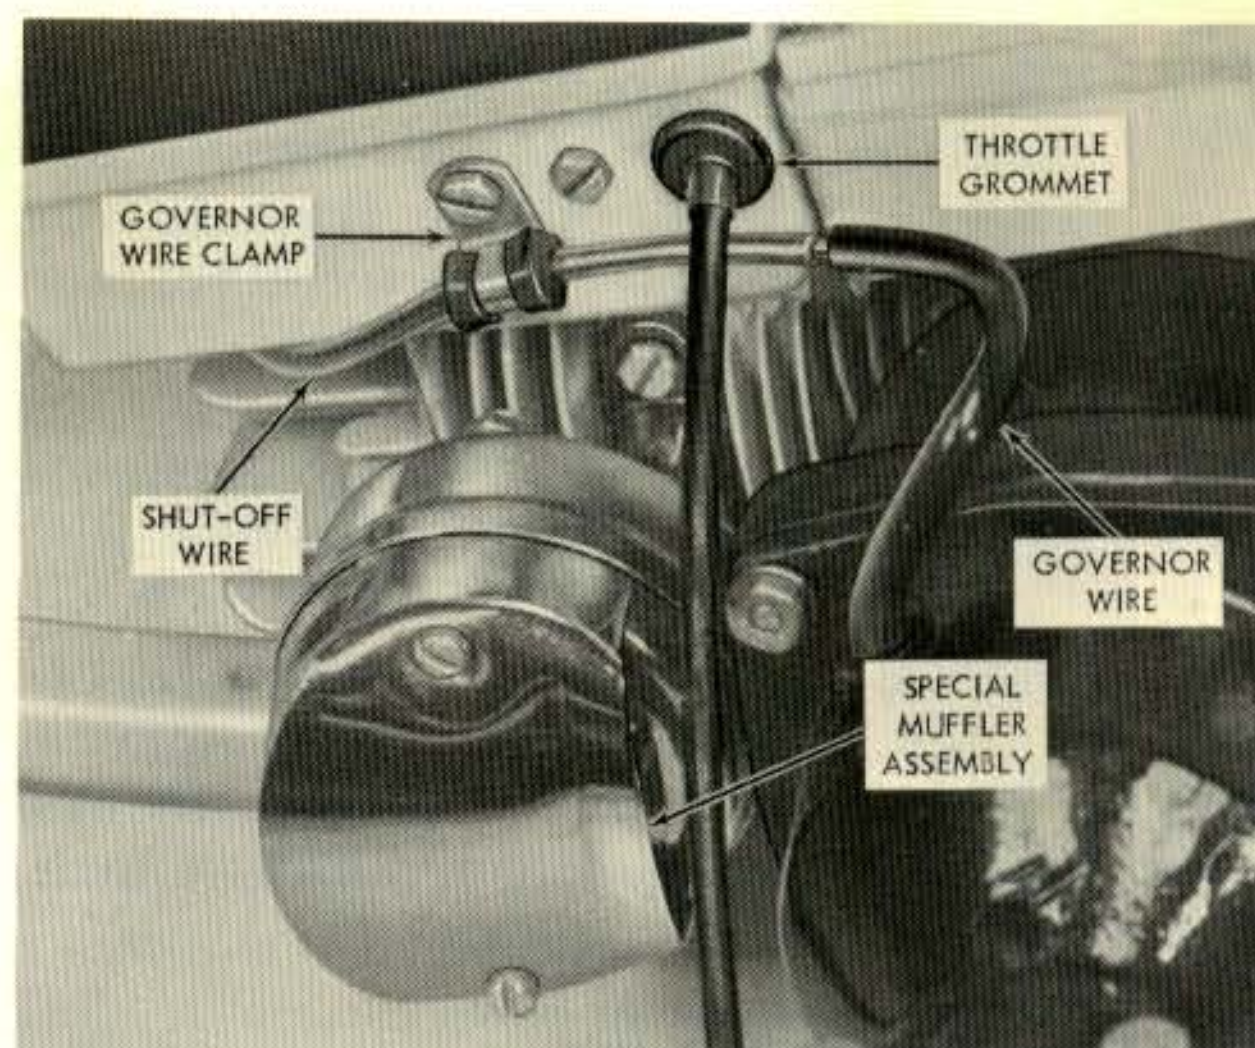

Figure 11. Mounting Special Grommet
9. Thread the loose end of the Shut-off Wire through the Governor Wire Clamp as shown in Figure 11. Align the screw holes on the Clamp with the screw hole (small hole on left) drilled in the side of the airbox. Put the Bellcrank Bracket inside the airbox and align its screw holes with the two small airbox screw holes. Secure the Governor Wire Clamp (on outside of airbox) and the Bellcrank Bracket (on inside of airbox) with two 10-24 x 3/8-inch long screws (P/N 100415) and two 10-24 hex nuts (P/N 101191).
10. Insert the loose end of the Governor Wire (leading from the Bearing housing on the drive unit) into the Shut-off Wire connection as shown in Figure 11.